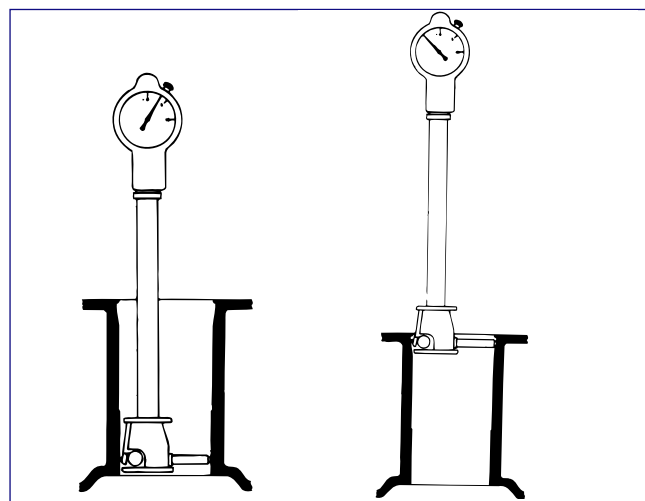

FIGURE 3-36, Gage Bore
15. Gage Bore. Determine amount of stock removal required. If you are rough honing, plan to leave 0,08 mm (.003 in) for finish honing (*see Figure 3-36*).